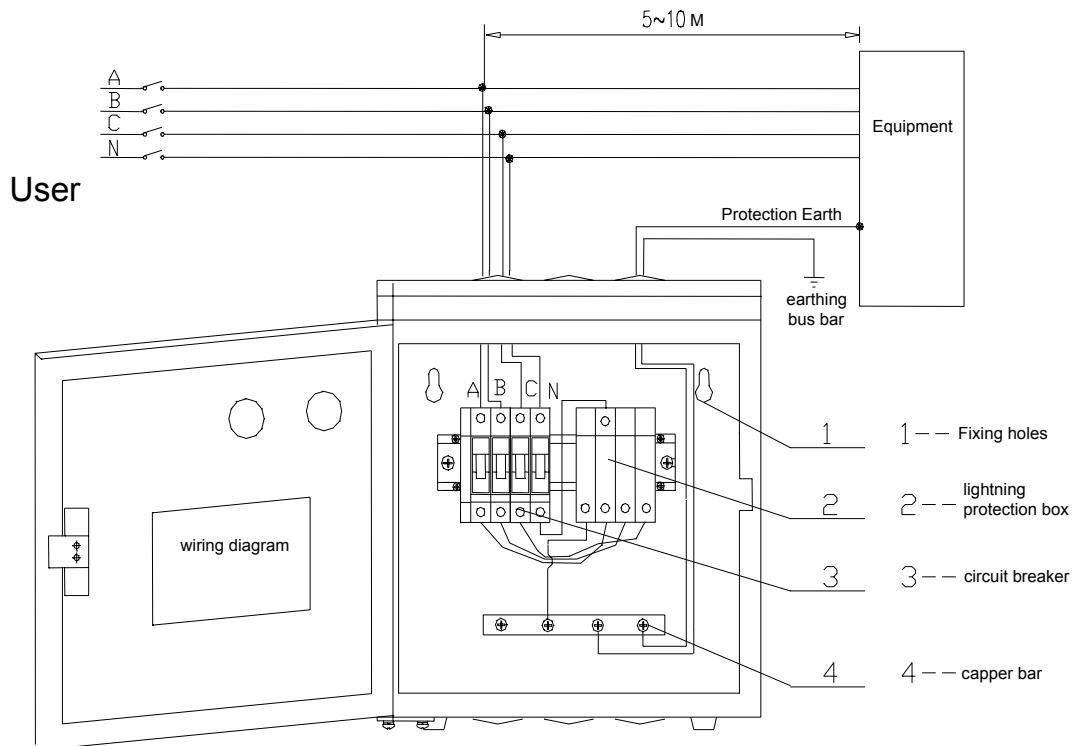

Fig. 9-8 SPD24Z wiring
- f. Open the panel of the lightning protection box, wire according to the figure printed on the rear side of the panel and Fig 9-8;